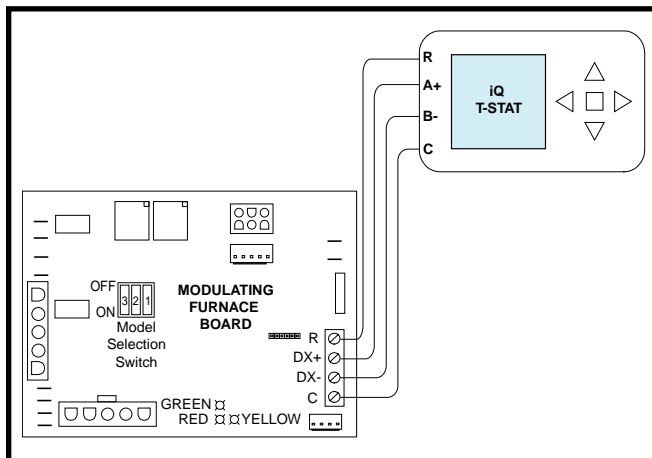
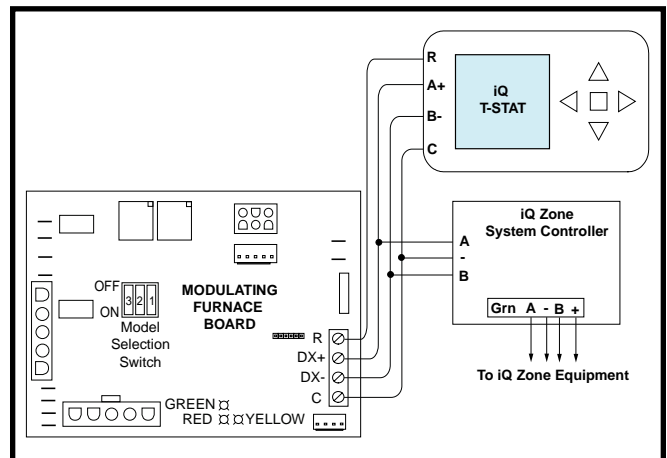

Figure 21a. Low Voltage Field Wiring (MQ Furnace Without iQ Zone System)
Figure 21b. Low Voltage Field Wiring (MQ Furnace With iQ Zone System)
(P/N 709031). The iQ Drive® thermostat is connected to the furnace by running 4 wires from the thermostat to terminal P5 on the furnace control board (Figure 21a, page 25). If this MQ furnace is part of an iQ Zone system, refer to Figure 21b. **Field supplied wiring is recommended to be a 4 wire shielded cable and must be a minimum of 18 gauge.**
- ✓ Verify the thermostat wires (R, DX+, DX-, & C) are securely connected to the correct leads on the terminal strip of the circuit board. See Figures 21a-f (pages 25 - 26).
The operating sequences for the heating, cooling, and fan modes are described below. Refer to the field and furnace wiring diagrams: (Figures 21a-f, pages 25 - 26) and (Figure 26, page 34).